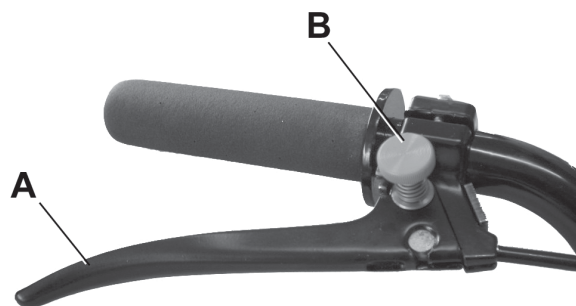

Fig.6.1A.1
6.1A OPERATOR PRESENCE CONTROL - MECHANICAL (OPC) (Fig. 6.1A.1)